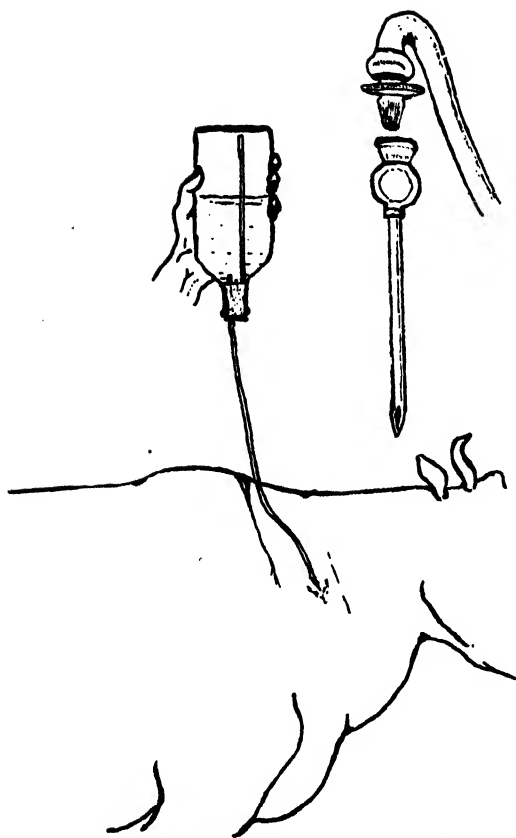

Fig. 3.—Method of Injecting Calcium Boro-gluconate by Gravity Feed Bottle.
1. A 20 cc. syringe and two hypodermic needles of 16-19 standard wire gauge, each at least two inches long, or a gravity feed bottle complete with rubber tubing, as shown in Figure 3.
(a) *Gravity Feed Bottle* (Fig. 3).—Insert needle under skin; invert the bottle holding rubber tube at its tip and allow a small quantity to flow until the tube is filled. Have an assistant hold the bottle whilst the tube is attached to the needle. Inject half of solution in two places—on either side of the neck. Administration is aided by moving the needle within the blister formed.